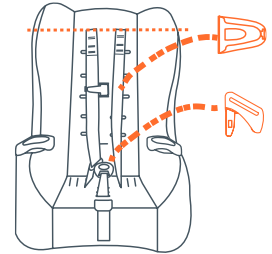

Fig. 44a
22. Feed harness end loop from the back side of the buckle tongues (Fig. 44a).
23. Feed chest clip through harness end loop on child's left side (Fig. 44a).
24. Pull up on webbing end loops to ensure the webbing end loops are equalized (Fig. 44a).